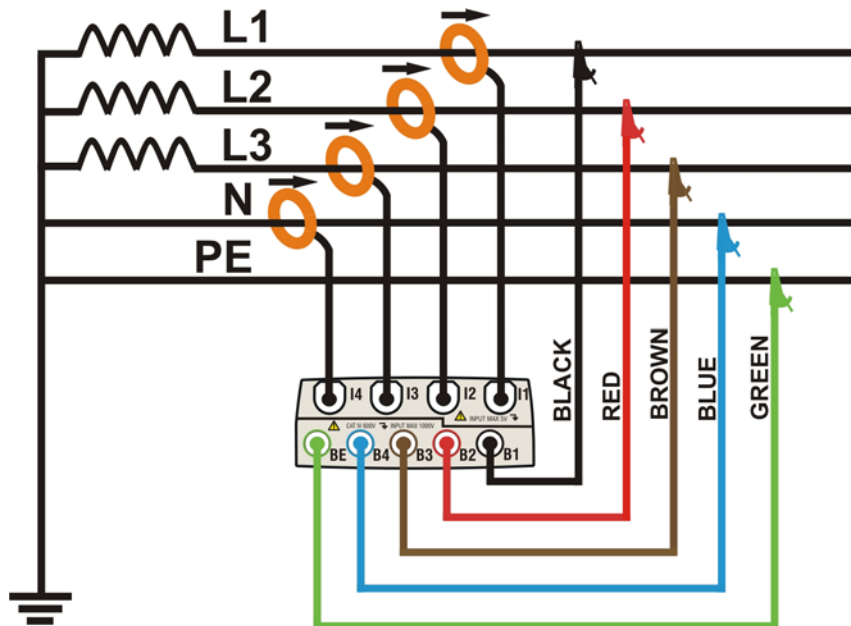

Fig. 175: Meter connection in a three phase 4-wire system
2. Connect voltage test leads on Phases L1, L2, L3, Neutral and Ground cables considering the colours as shown in Fig. 175. **Verify the result “123” at display relative to a correct phase sequence indication** (see § 5.2.1) and perform the corrections if necessary.
3. Connect the transducer current clamps on Phase L1, L2, L3 and Neutral N cables as shown in Fig. 175 respecting the clamp’s arrow direction indicating the current standard sequence from generator to load. **On Real Time Values’ section screens always verify the positive value of Active Power and the power factor relative to each load which should be normally inductive** before starting a recording. Reverse the clamp by 180 degrees on cables in case of negative readings.